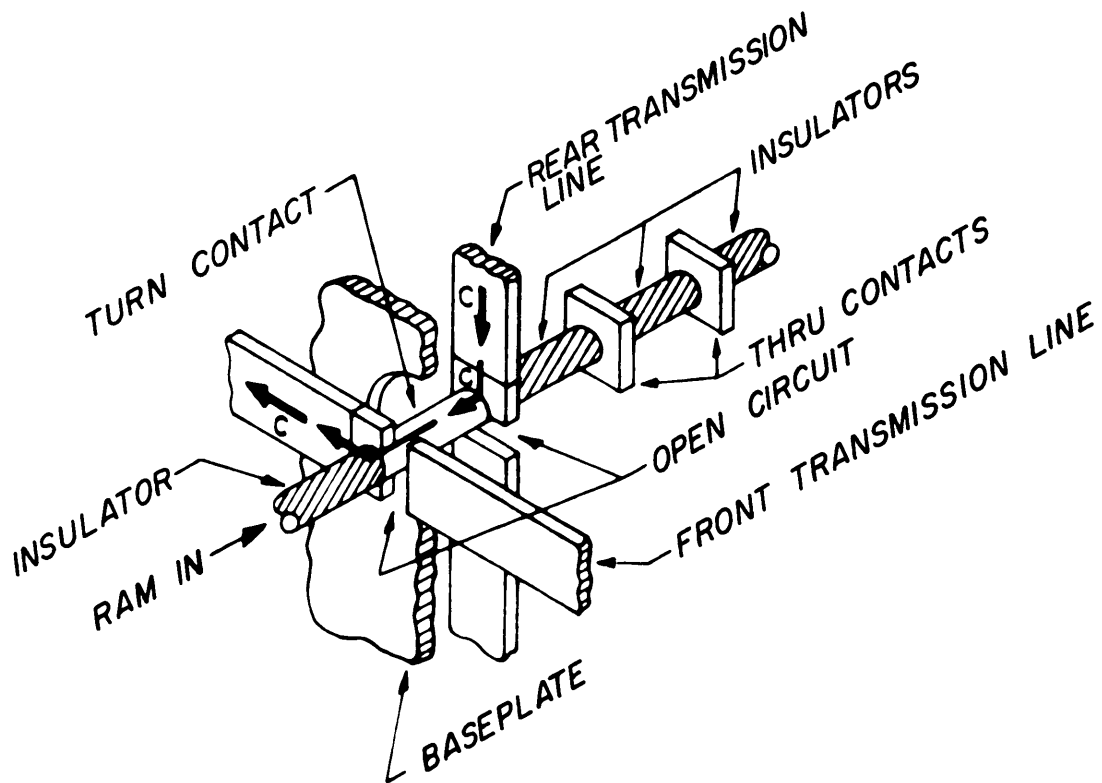

Figure 4-3. Transfer Connection (Ram In)
4.1.4 When the ram is pushed in, the thru contacts are removed from the circuit and a "turn" contact engages the transmission line as shown in Figure 4-3. This contact consists of a length of tubing with rectangular contacts oriented at right angles on each end as shown in the figure. Notice that the rectangular contacts are dimensioned so that they connect with only one side of the rear transmission line and one side of the front transmission line, thus opening the circuits in both the rear and the front while making a connection between the rear and the front. This removes all transmission line stubs from the RF circuit and at the same time prevents the accidental paralleling of inputs or outputs.
4.1.5 By repositioning and/or modifying the ram, either end of the rear transmission line may be connected to either end of the front transmission line. To establish ram terminology, it is assumed that the rear connection is always made on the top, and the ram is described by the connection that is made on the front; thus, the ram shown in Figure 4-3 is a "left-hand" ram since it connects to the left-hand side of the front transmission line.